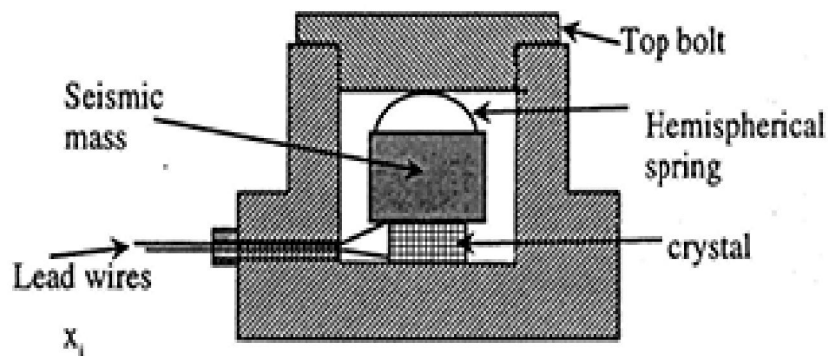

Fig.3.2.5 Piezoelectric accelerometer
- Construction details of a piezoelectric accelerometer is as shown in Fig. 3.2.5.